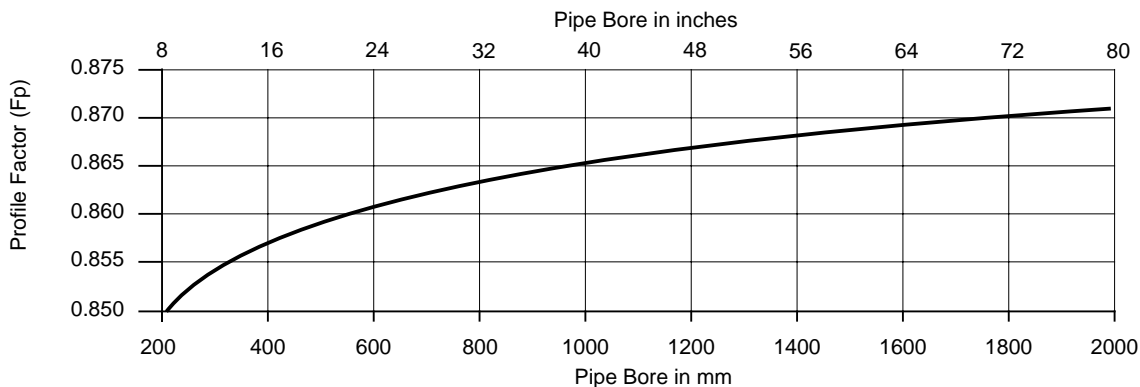

Fig. 5.1 Profile Factor v Velocity for Pipe Sizes 200 to 2000mm (8 to 78in.)
b) Determine the profile factor  $F_p$  from Fig. 5.1.
$$F_p = 0.861 \text{ (derived from Fig. 5.1)}$$